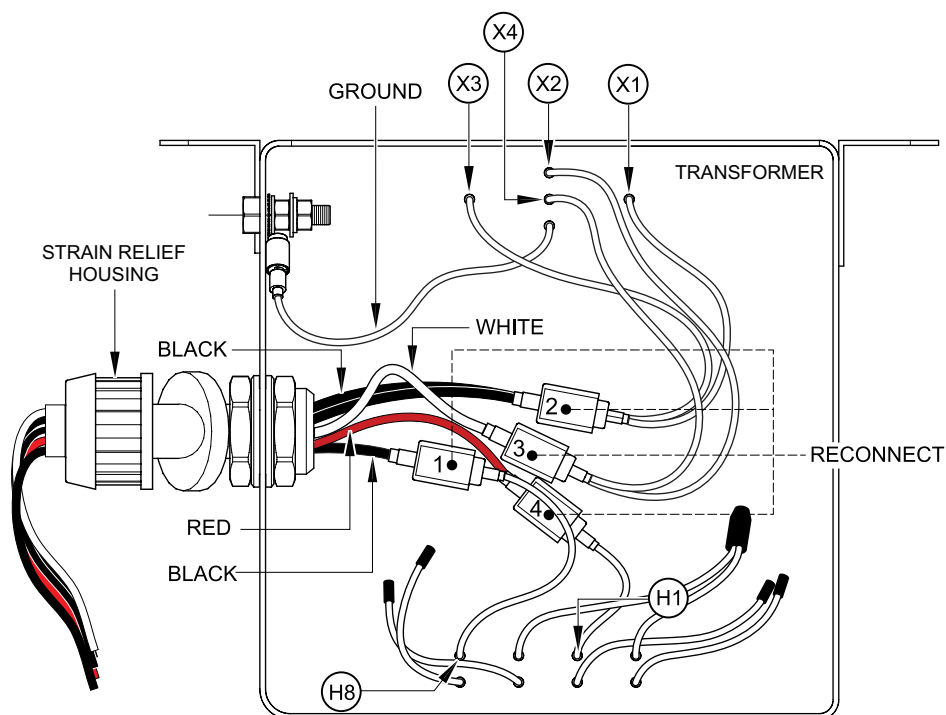

Figure 11. Wiring Connections
- Reconnect all strain relief cable wires (4) as shown in Table 1 and Figure 11.